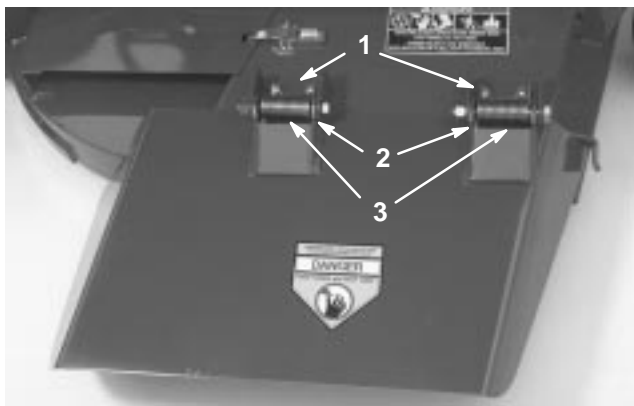

**Figure 34**
5. Position all 3 blades in the “A” position (Fig. 33) and measure from the level surface to the bottom of the tip end of each blade (Fig. 34).
6. Note the measurement attained at “A”, rotate the blades to the “B” position (Fig. 33), measure the distance of all of the blades to the level surface, and note the dimensions (Fig. 34).